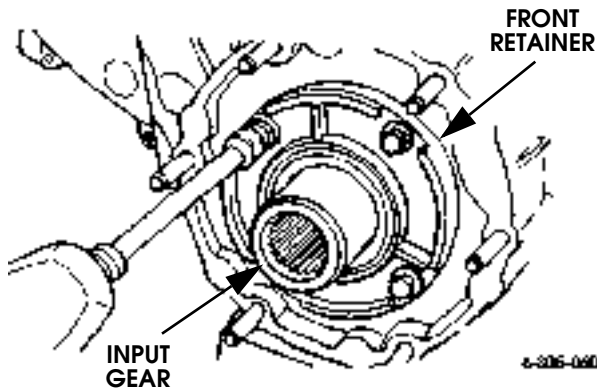

Figure 5-137: Front Retainer Installation
- c. Align oil feed slot in retainer with feed hole in front case and install retainer (Figure 5-137).